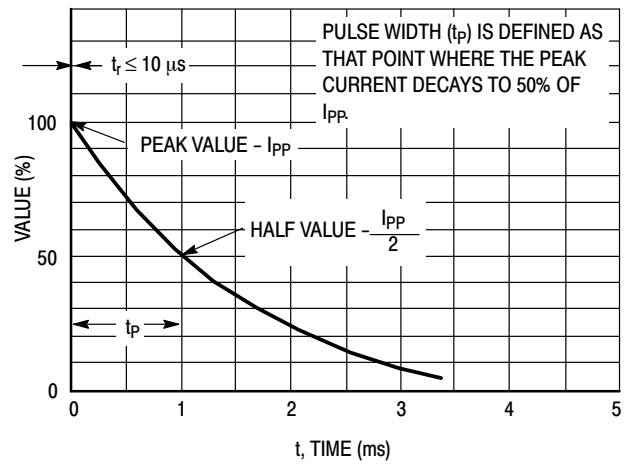
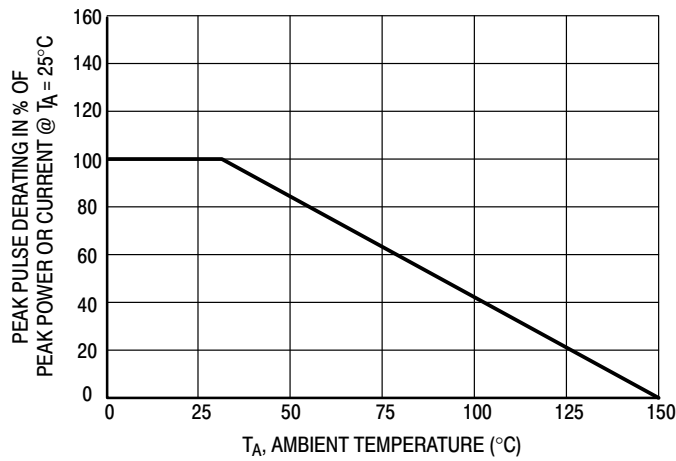

Figure 2. Pulse Waveform
Figure 3. Pulse Derating Curve
8. Surge current waveform per Figure 2 and derate per Figure 3.